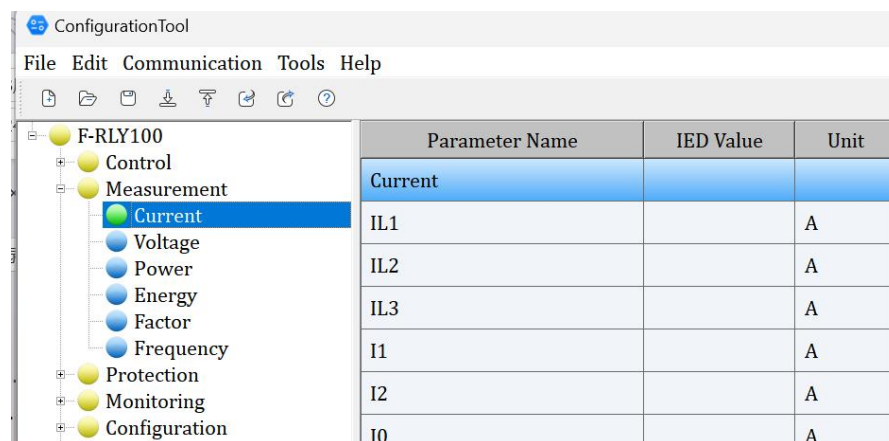

Figure 35
- 4) Click the “Measurement” and values window will popup. (Figure35)